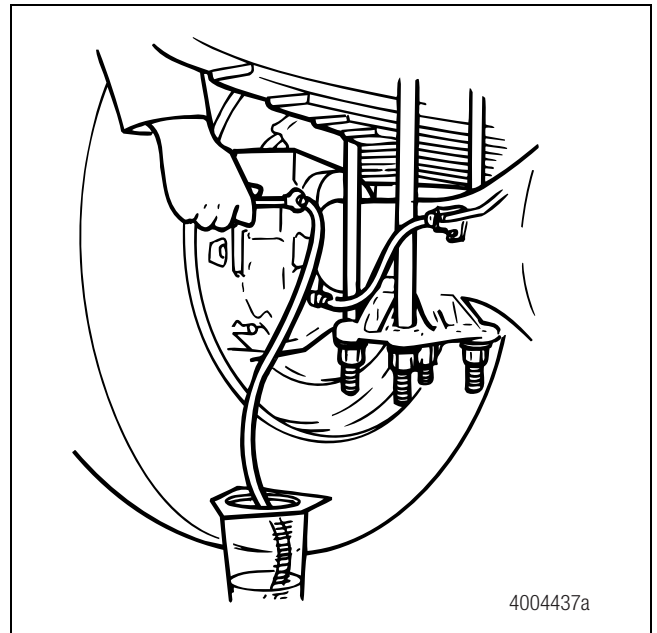

Figure 4.14
- C. Use a wrench to open the bleeder fitting screw. Figure 4.14.